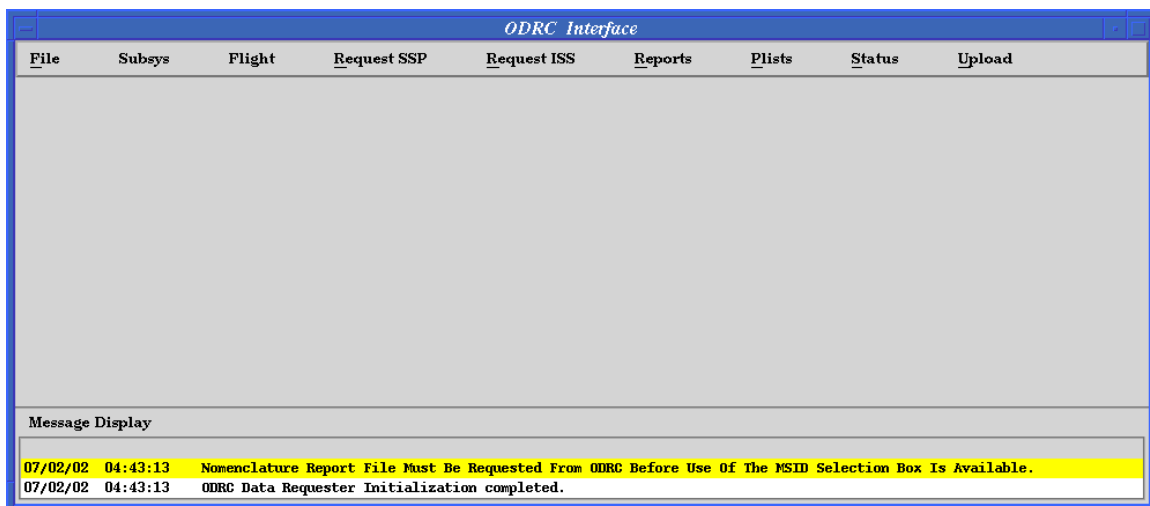

Figure 4-15. ODRC Interface application
2. Left click on **Applications** to get to the ODRC Interface, Plot, Tab, and Verify applications. Select **ODRC Interface**. The ODRC Interface application is shown in Figure 4-15.
1. From the ODRC Interface screen (Figure 4-15), click on **Request ISS/ISS Core** to bring up the Request Data screen (Figure 4-17). For nominal ISS Ops, change ODRC Alias listed under Options menu (top left of screen) to "odrc_ums1." When HSG is in Backup Control Center (BCC) mode, it must be listed as "odrc3."
5. Enter a run number. This should be obtained from the HSG System Administrator (SA).
8. Request Status on ODRC Interface screen (Figure 4-15) changes from Submitting (being sent), Validated (request is in the queue), Running (data is being pulled), Transmitting (data coming to you), and Completed (it is now viewable on your machine).